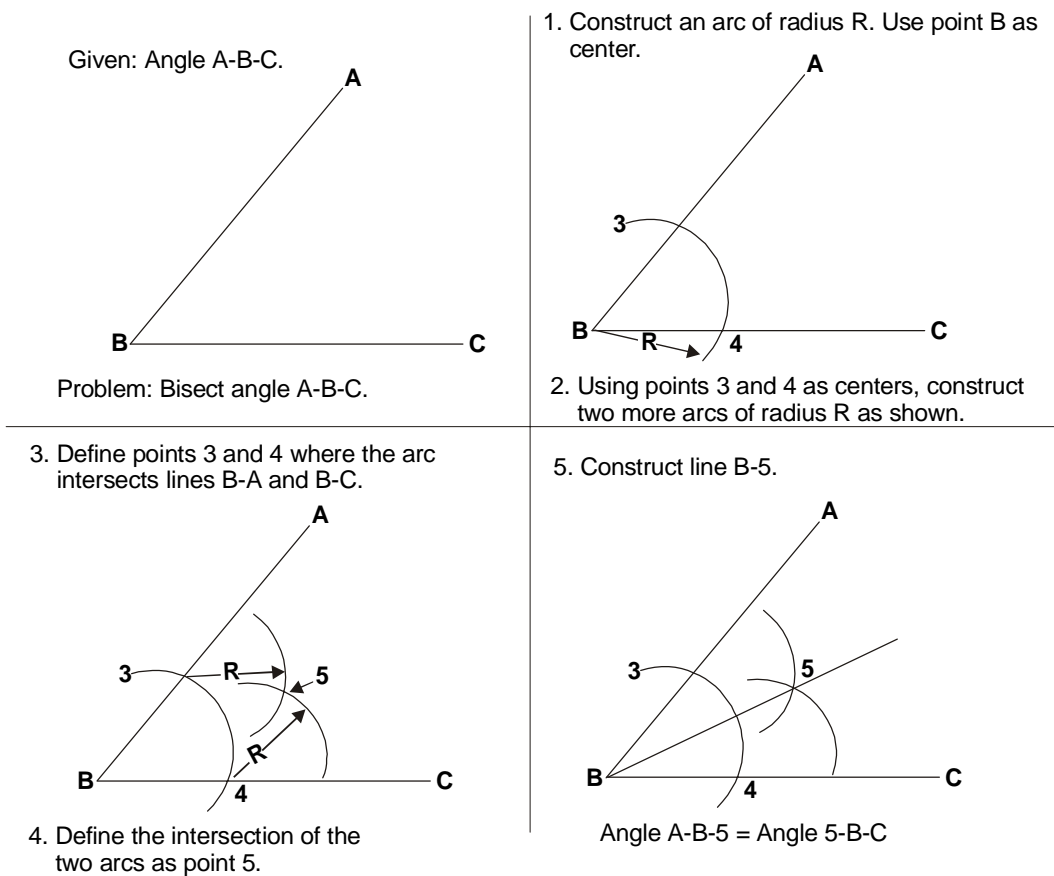

Figure 3-18. Bisecting an angle.
f. Bisecting an angle. Draw an arc through angle A-B-C. Using points 1 and 2, construct two more arcs. Draw points 1 and 2, construct two more arcs. Draw a line from B through 3. See Figure 3-18.